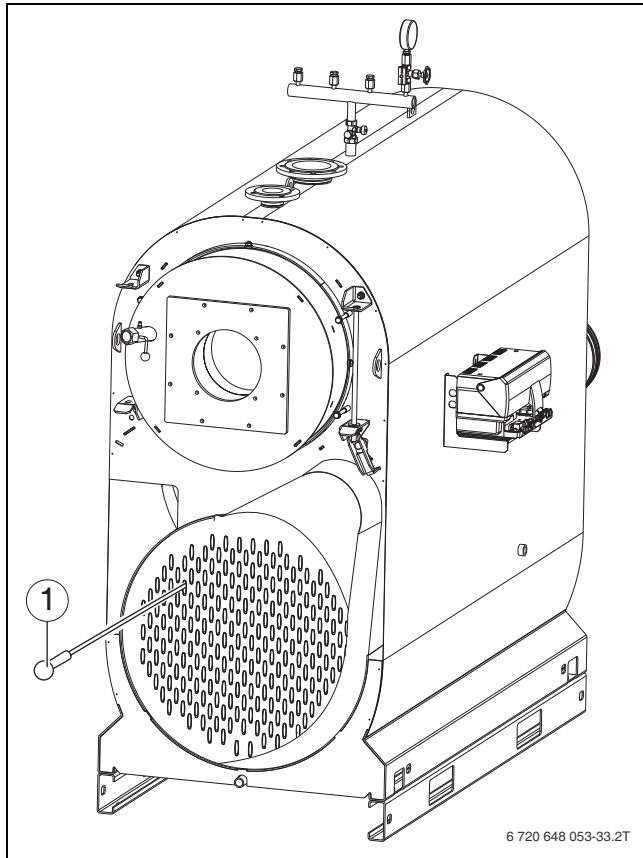

Fig. 33 Cleaning the flue gas collector
- Clean the secondary heating pipes with a brush (→ fig. 33, page 32).